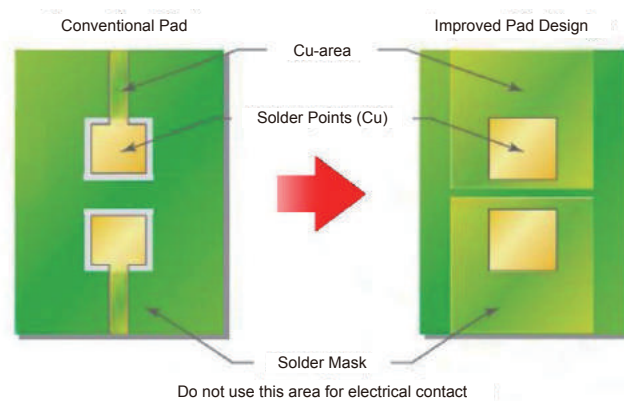

Fig. 12
7. High-power LED devices require optimization of heat dissipation. Increasing the size of metal mounting surface and proper application of thermal conductive paste will help improve heat dissipation. Refer to below diagram (Fig.12) and product datasheets for specific design recommendations.